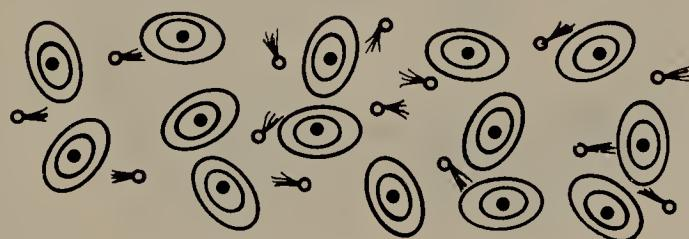

FIGURE 7.3 In a copper wire, many free electrons move from atom to atom.
7.5 Conductors. A conductor is an electron path through which electrons, that is, electricity, can flow easily. Copper is a good conductor. The reason for this is that copper atoms can very easily lose electrons. There are great numbers of electrons moving about in all directions among the atoms of copper (Fig. 7.3).